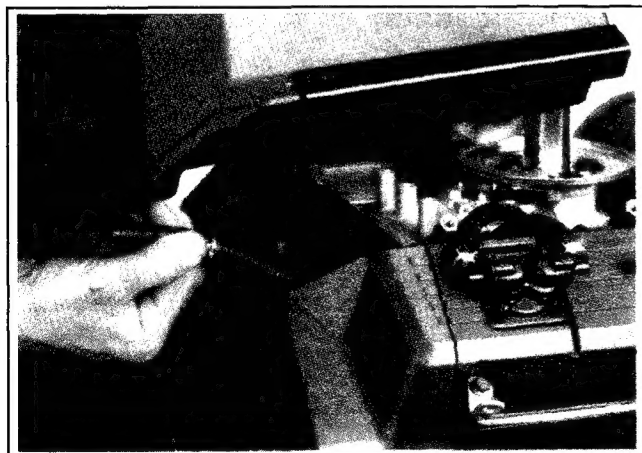

Figure 11-58. Connecting Fuel Line to Shut-Off Valve (Top Mounted Tank).
1. Install hose clamp on fuel line. Connect line to fitting on fuel shut-off valve and then slide clamp over fitting and release. See Figure 11-58.